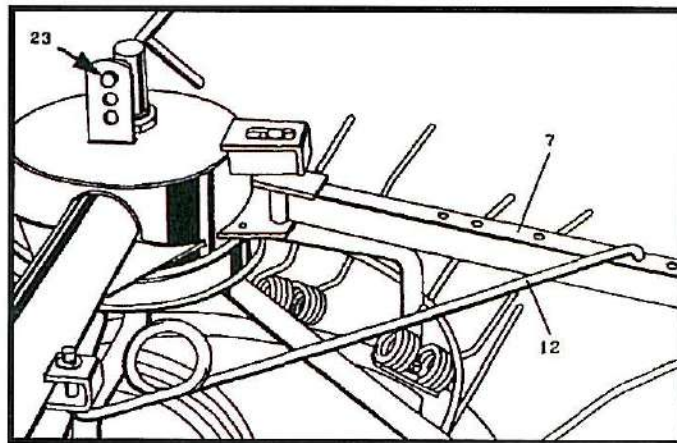

Fig. 9. Setting the height of rotors in the top holes.
- Set the height of rotors with locks 23 (Fig. 9.) put in top holes. When the stubble is long, use the low holes for clean raking.